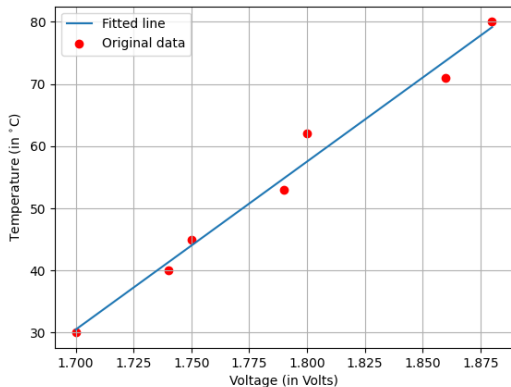

Figure 3: Model Training
- The plot of the training data, linear model curve is shown in the figure 3.